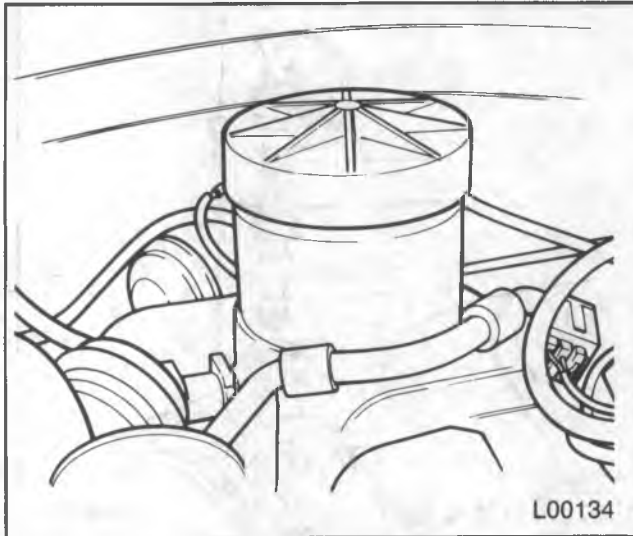

Figure 7—Manifold Cover, Installed
- Cover the air intake with J 29664 to prevent foreign material from falling into the manifold (Figure 7).
- Remove J 29664 from the air cleaner inlet (Figure 7).